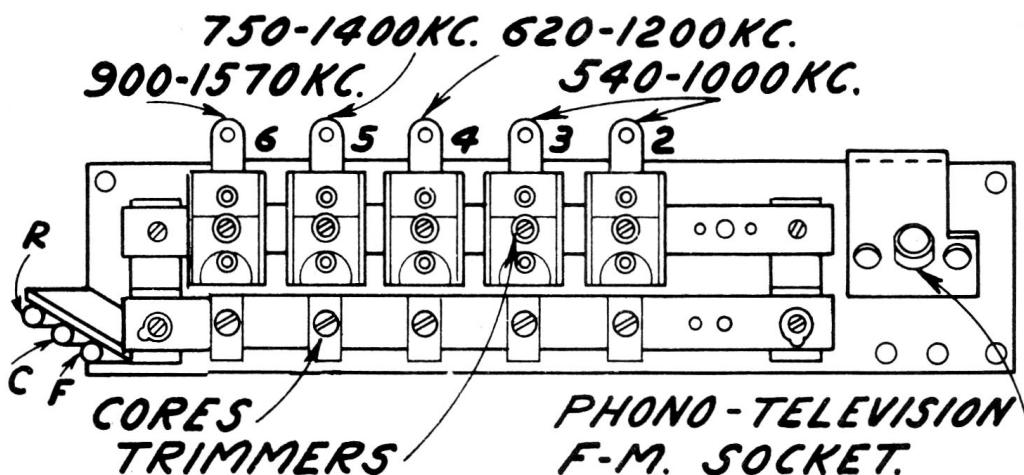

Fig. 4
- (1) Turn "Range selector" to "A" position and manually tune in the first station, say 560 k.c.
- (2) Turn "Range selector" to "P.B." position, press key No. 2 located second from left on front panel.
- (3) Referring to Figure 4, adjust core and trimmer No. 2 for a peak at 560 k.c.
- (4) Proceed to adjust the other four stations in order of frequency, as outlined above.